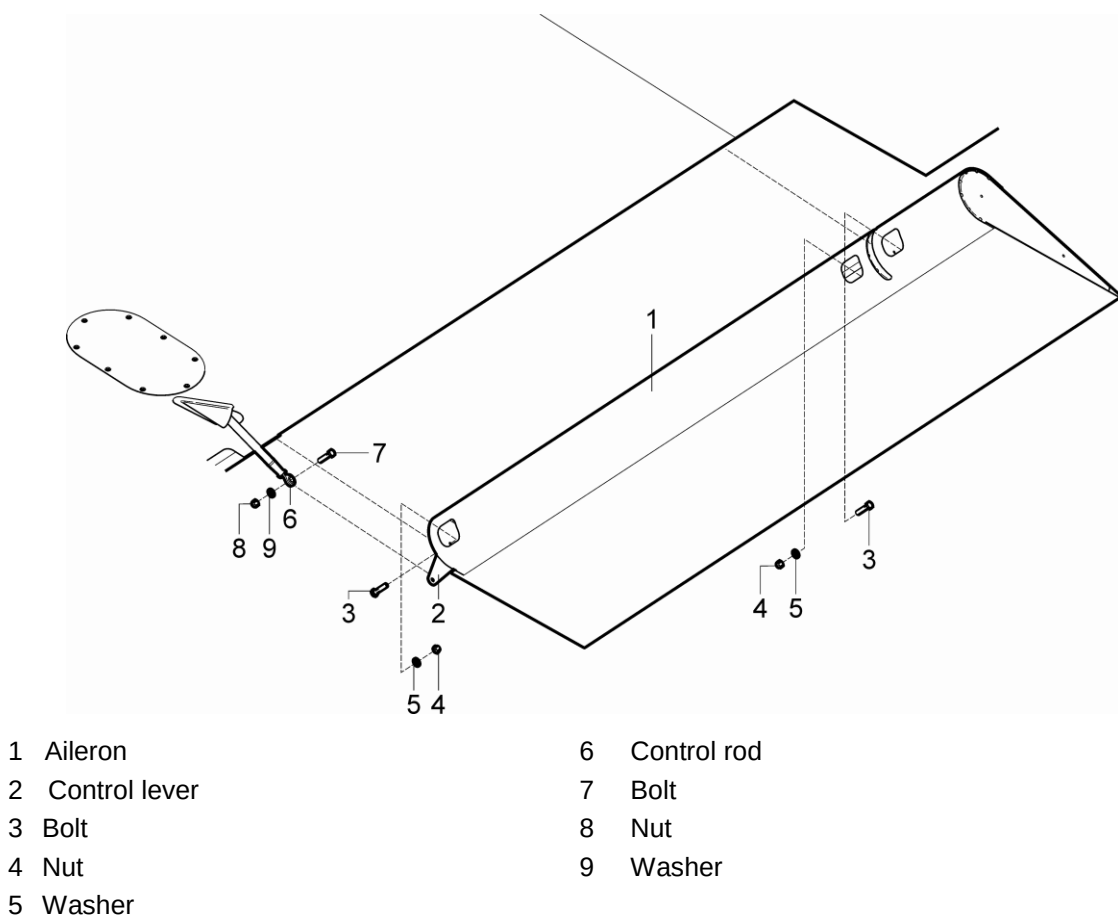

Fig. 4-8: Aileron removal / installation
- disconnect trim tab actuator wires (2).
- (c) Unscrew the nuts (4, Fig. 4-8), remove the washers (5), bolts (3) and disconnect both aileron hinges.
- (d) Carefully remove the aileron (1) from the wing.
- (b) Set the aileron (1, Fig. 4-8) on the wing in to the both hinges.
- (d) Insert the bolts (3, Fig. 4-8) in to the hinges, install the washers (5) and screw the nuts (4).
- (e) Connect the control rod (6) with aileron control lever (2) by means of bolt (7), nut (8) and washer (9).